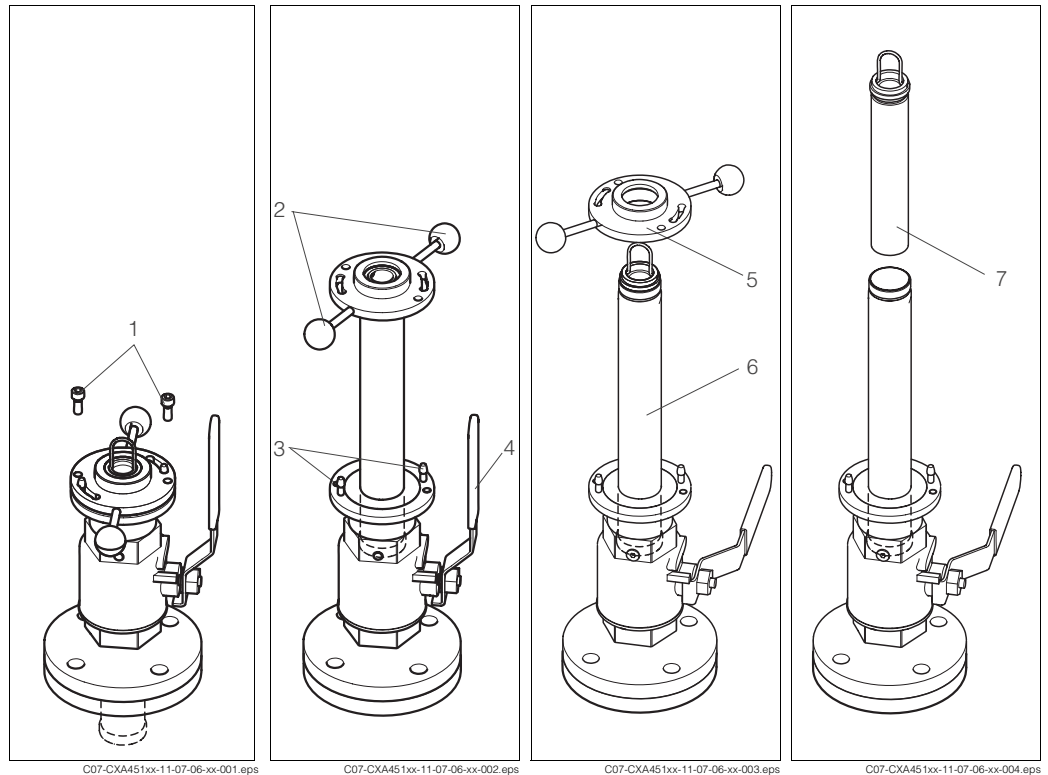

Fig. 10:
1. Loosen the fastening screws (Fig. 10) and place them somewhere within reach (and safely).